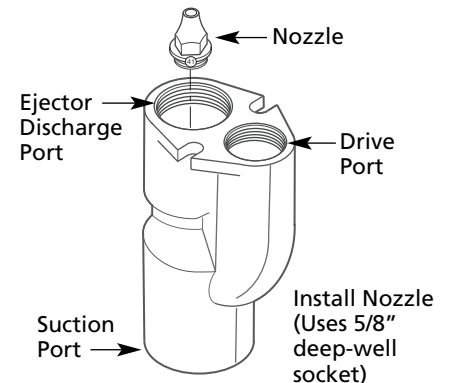

Figure 3
3. Use 5/8" deep-well socket to install nozzle in top (double port end) of ejector body (see Figure 3). Nozzle threads into third set of threads visible inside ejector discharge port (larger port) in ejector body.